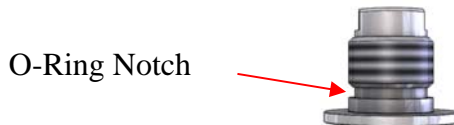

Figure 30: Center Bushing O-Ring Notch
4. Carefully place the center bushing o-ring onto the center bushing, making sure not to cut the o-ring. The o-ring should reside in a notch groove on the center bushing. See Figure 30.